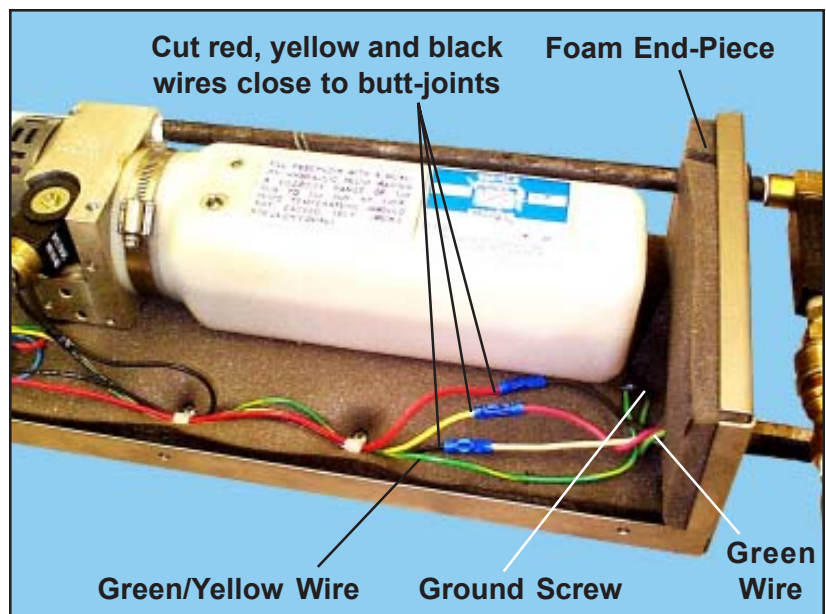

Figure 42. Power Pack Interior
10. Cut off the red, yellow and black wires as close as possible to the butt-joint connectors (Figure 42).